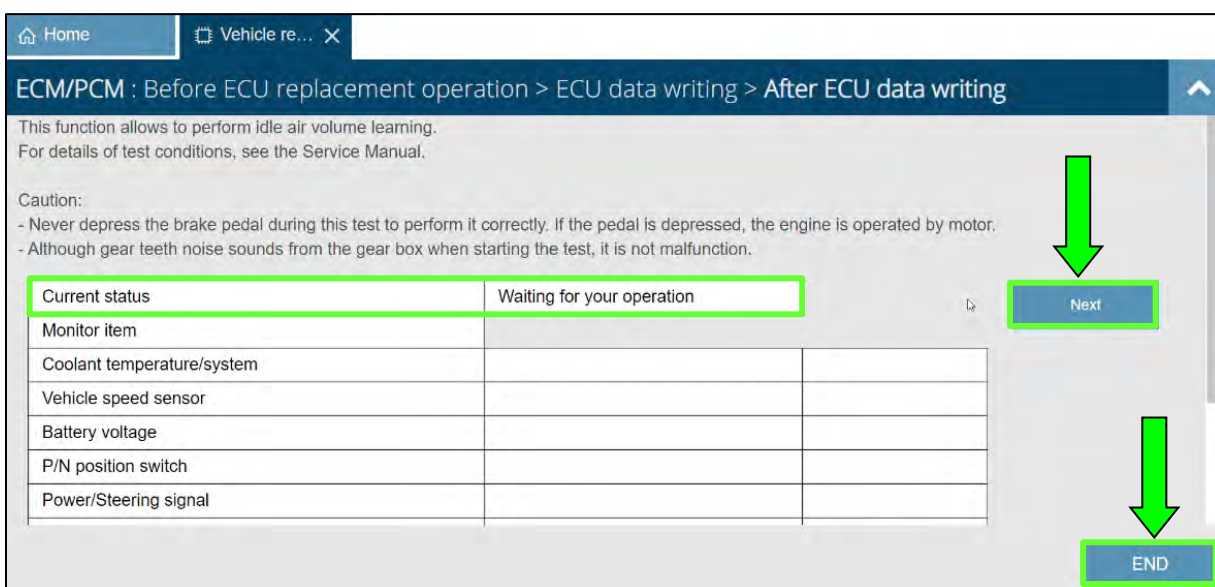

Figure 24
26. When the screen in Figure 24 is shown (Idle Air Volume Learning (IAVL), press and hold the push button ignition switch for 5 seconds to turn the ignition OFF.
27. Follow the on-screen instructions to perform IAVL (Figure 24).